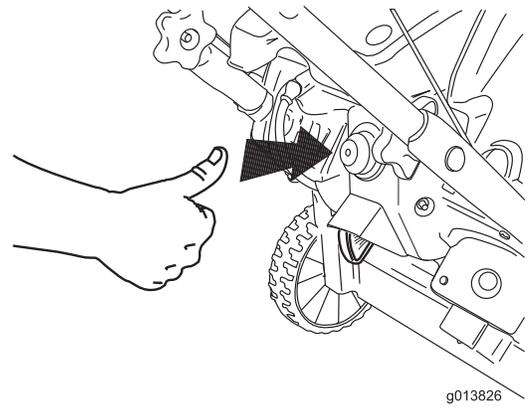

Figure 17
3. Firmly push in the primer with your thumb as indicated by the table below, holding the primer in for a second before releasing it each time (Figure 17).